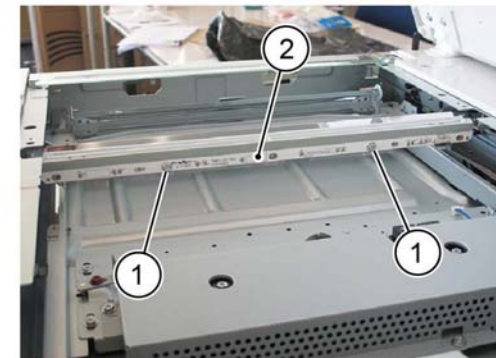

Figure 3 Lamp assembly removal
6. Remove the lamp assembly, Figure 3:
- a. Remove two screws (1).
- b. Remove the lamp assembly (2).